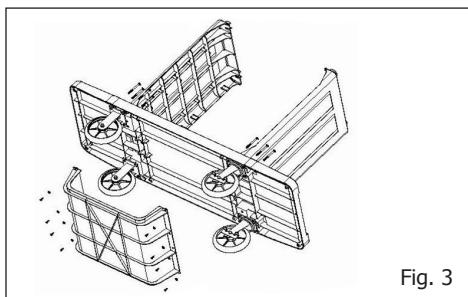

Fig. 3
- Screw the bottom tray onto the bottom board with part E & L. (Fig.3)